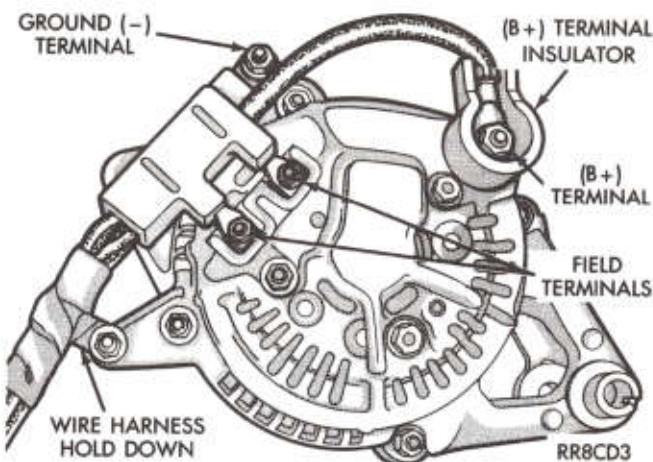

Fig. 3—Remove or Install Wire Connector Assembly
- (4) Remove the B+ terminal (1) nut, field terminal (2) nuts, ground, and harness hold-down (2) nuts (Fig. 3). Remove wire connectors.
- (5) Remove the alternator from the vehicle.